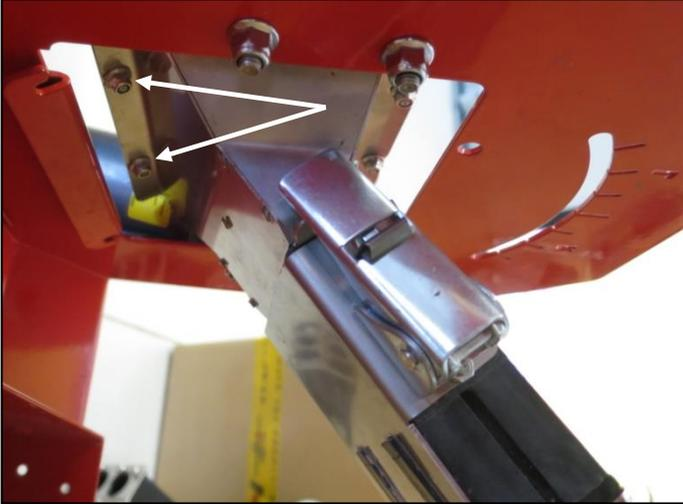
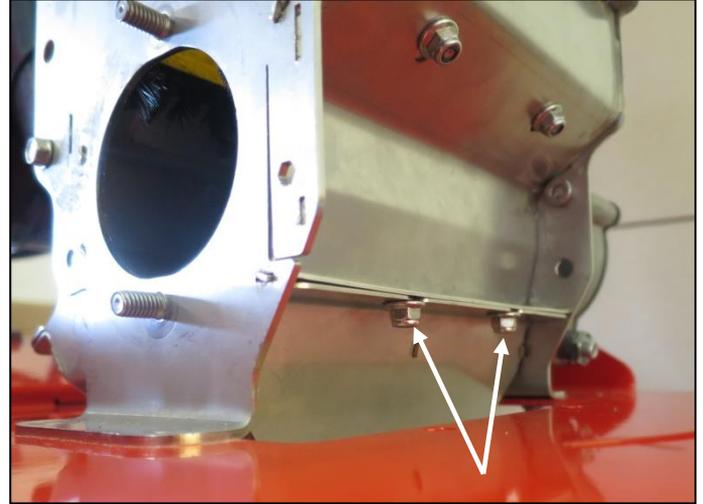
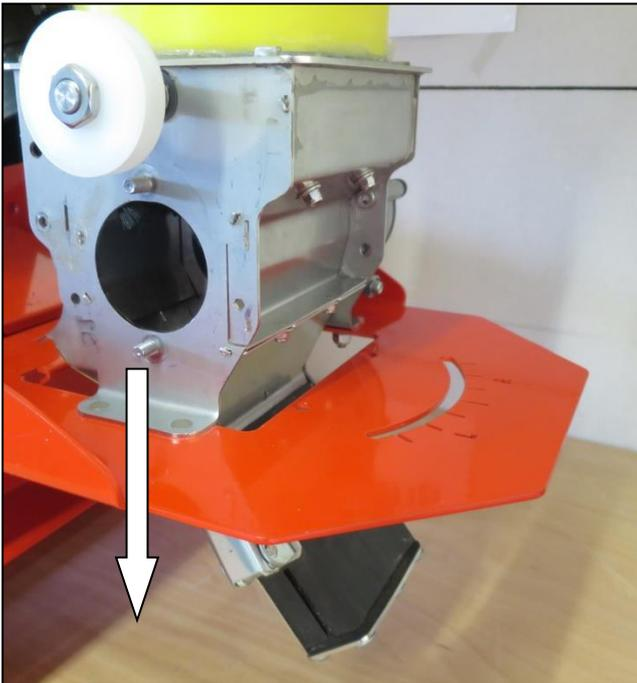

Fig.: 116
Fig.: 117
Fig.: 118
- Loosen the flange nuts on the bottom (Fig.: 116) or on the front (Fig.: 117) and then remove the unit with the air channel and the transition pieces towards the bottom, as shown in Fig.: 118.